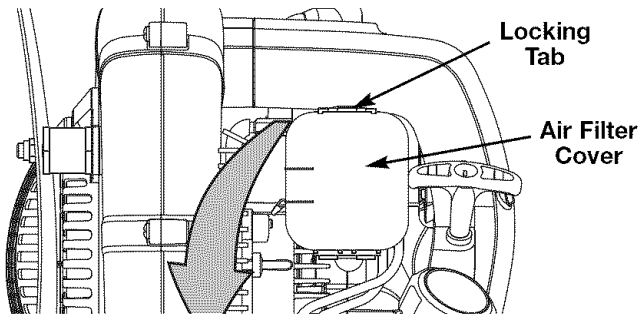

Fig. 18
1. Open the air filter cover. Push the locking tab on the top of the cover inward, then pull the air filter cover out and down. (Fig. 18).